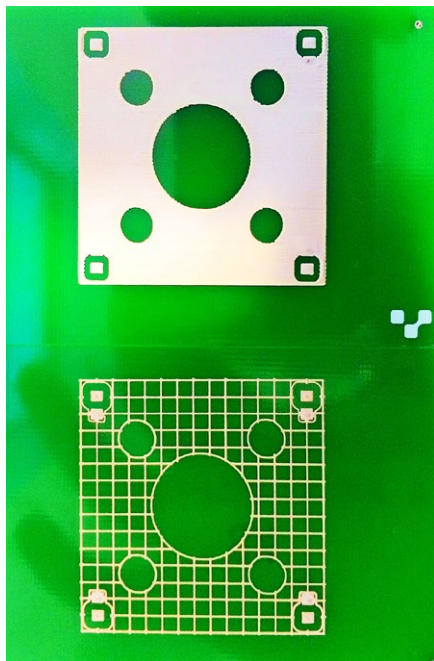

Fig. 5: V-One printed ground plane (top) and complementary hatch plane (bottom).
- all ground planes were converted to a hatch pattern. The density of the hatch presents a trade-off between resistance versus ink consumption and print time. For this application the density was set to 16 mil. Figure 5 shows a comparison between a ground plane and its complementary hatch pattern